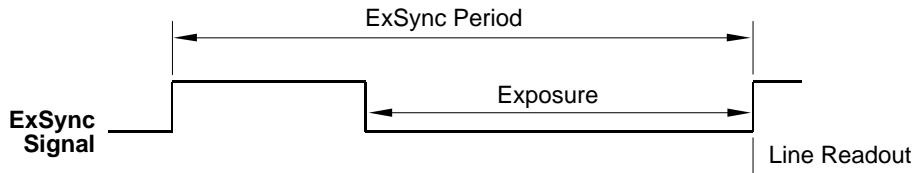

Fig. 25: ExSync Level Controlled Mode
- In **ExSync level controlled** mode, line acquisition begins on the rising edge of the ExSync signal. The exposure time is determined by the time between the falling edge of ExSync and the next rising edge. The pixels are exposed and charge is accumulated only when ExSync is low. The pixel values are read out of the sensor on the rising edge of the ExSync signal (see Figure 25).